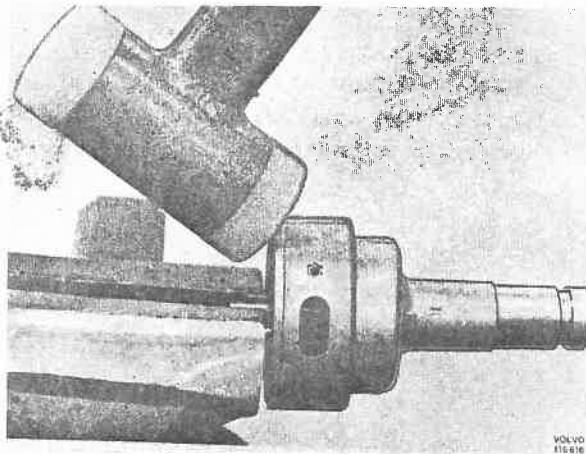

Fig. 34-13. Removing the breaker cam
- Fix the breaker cam in a vice with soft jaws. Carefully knock on the distributor housing with a plastic mallet until the lock ring loosens, Fig. 34-13. Take care of the lock ring and washers.